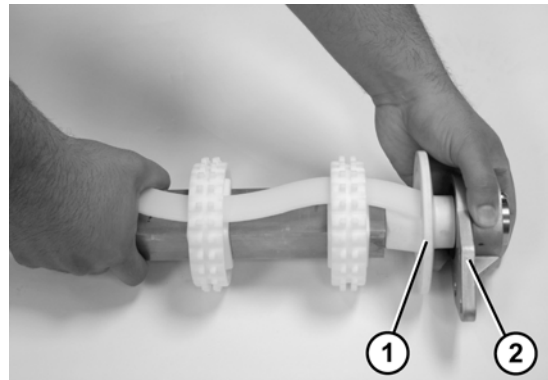

Figure 78
4. Attach the flanged pucks (Figure 78, item 1) and the 3 hole flange with bearing (Figure 78, item 2) to the drive spindle.